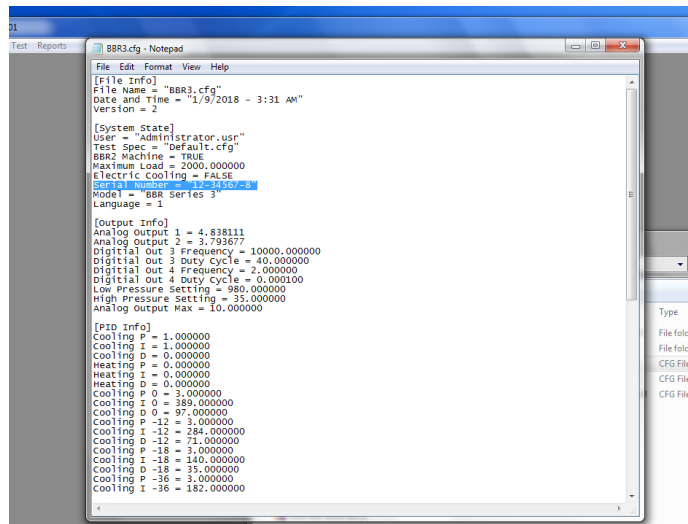

Figure D.12 - File After Opening Notepad
- Figure D.12 shows how the file will appear after opening in Notepad.